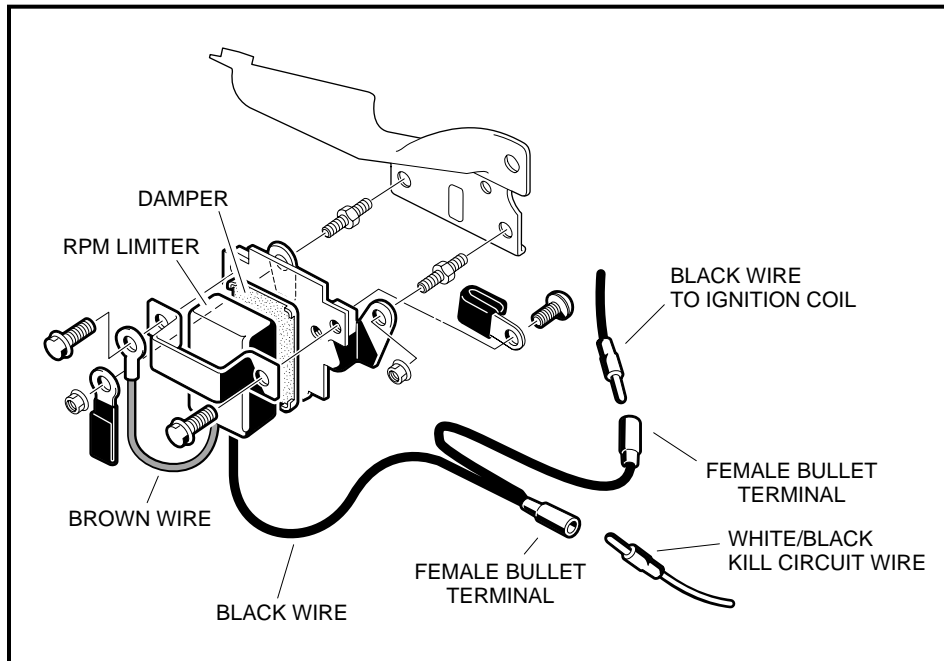

Figure 12-24 RPM Limiter Assembly
3. Disconnect the white/black wire from the black wire at the bullet connector located near the RPM limiter (**Figure 12-24, Page 12-25**).
5. Remove the flange head bolts from the RPM limiter band and remove the RPM limiter and damper (**Figure 12-24, Page 12-25**).
1. Place the RPM limiter damper on the front of the RPM limiter mounting bracket (**Figure 12-24, Page 12-25**).